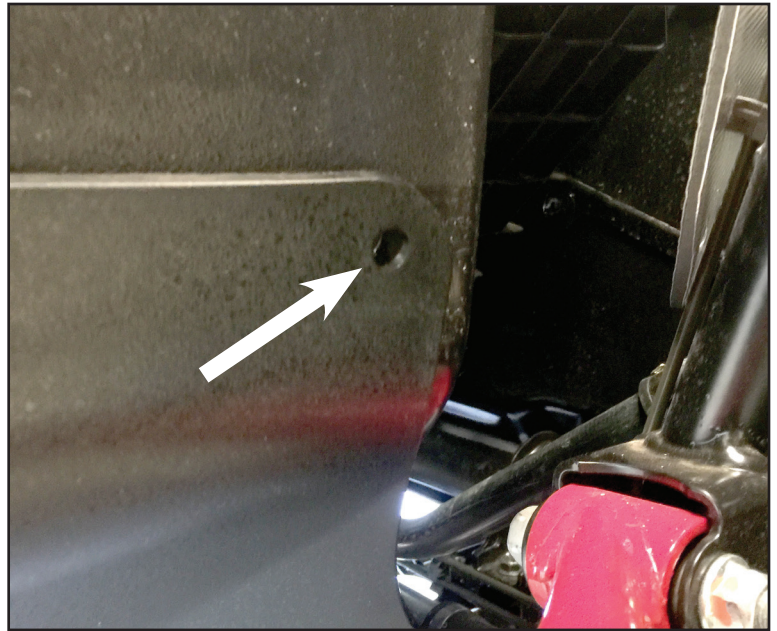

Figure 3
4. Find the push pin that is in the passenger side foot well that is in the center facing forward. Remove this pin. It will not be reused. Fig 3